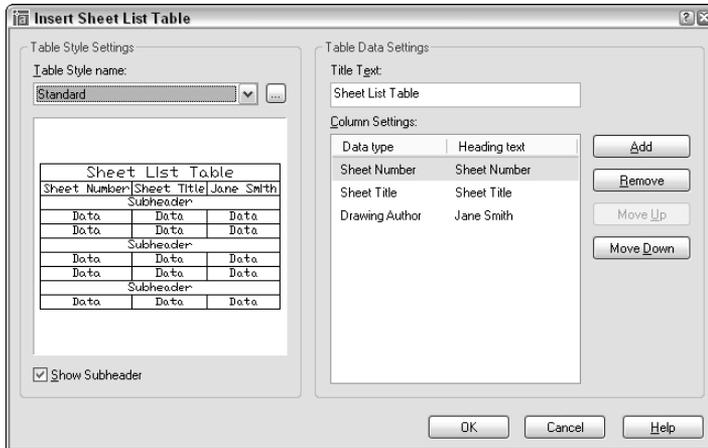

Figure 26-26: Use the Insert Sheet List Table dialog box to create a table that lists all the sheets in your sheet set.
- Right-click the sheet-set name and choose Insert Sheet Set Table to open the Insert Sheet List Table dialog box, shown in Figure 26-26.